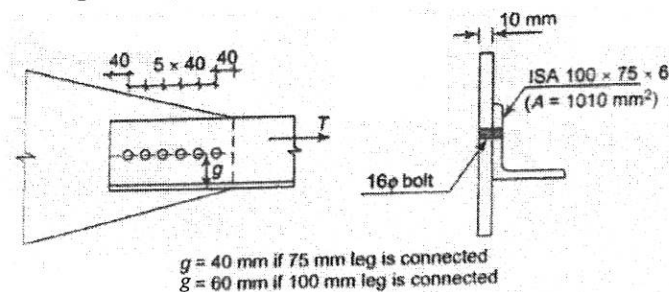

Fig. 3
13. (a) With six 16 mm diameter bolts to transfer tension as shown in Fig.3. Determine the design tensile strength of the angle assuming that the yield and the ultimate stress of steel used are 250 MPa and 410 MPa: